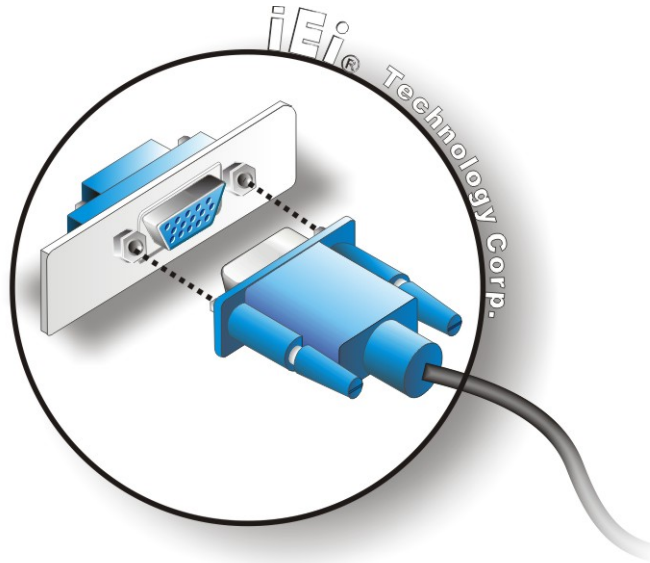

Figure 5-18: VGA Connector
Step 3: Insert the VGA connector Once the connectors are properly aligned with the insert the male connector from the VGA screen into the female connector on the NANO-LX. See **Figure 5-18**.